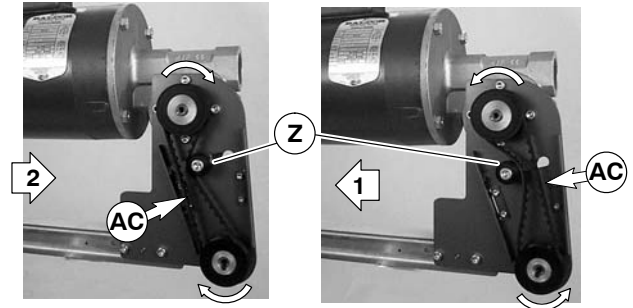

Figure 17
- Depending on direction of conveyor belt travel (1 or 2 of Figure 17), position belt tensioner (Z) as shown. Tension belt to obtain 0.125" (3 mm) deflection for 1.0 lb (456 grams) of force at belt mid-point (AC). Tighten tensioner screw to 103 in-lb (12 Nm).
5. Depending on direction of conveyor belt travel (1 or 2 of Figure 17), position belt tensioner (Z) as shown. Tension belt to obtain 0.125" (3 mm) deflection for 1.0 lb (456 grams) of force at belt mid-point (AC). Tighten tensioner screw to 103 in-lb (12 Nm).